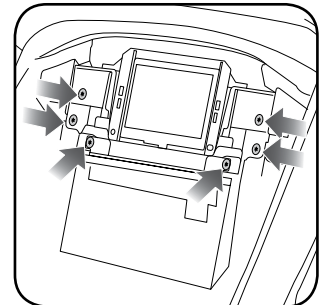

Fig. 1.6
6. Remove four (4) Torx T25 screws holding the screen frame, and two (2) Torx T25 holding the radio body. (Fig. 1.6)